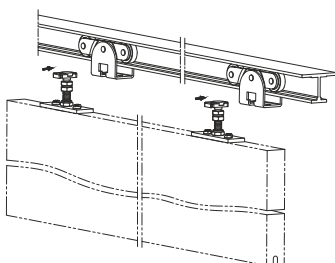

Fig. 5
6. Hang the shutter into the carriers as shown in Fig.5.